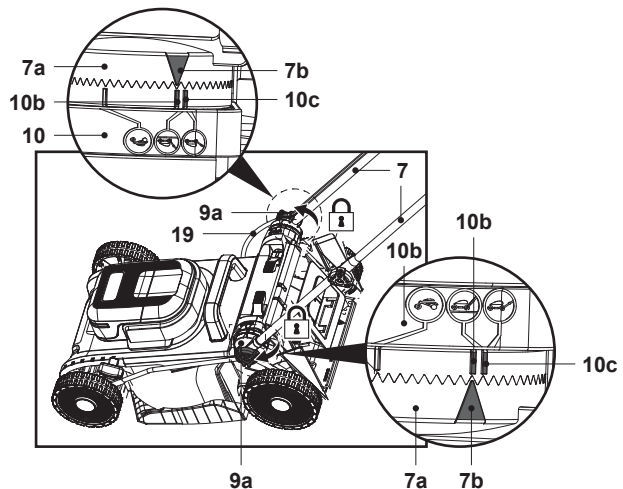

Fig. 2
3. Align the indicating triangle (7b) on dial plate (7a) with one of the handle height indicators (10b/10c) on handle support (10), then secure the lower handle bar (7) by tightening the locking knob (9a) (Fig. 2).
4. Repeat the above assembly on the other lower handle bar (7).
5. Ensure the two lower handle bars (7) are assembled on the same height level on both sides.
6. Make sure that the control cord (19) runs on the upper side of the lower handle bar (7).